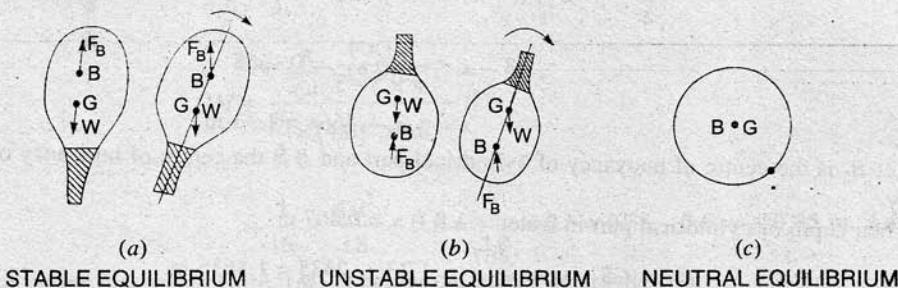

Fig. 4.12 *Stabilities of sub-merged bodies.*
4.7.1 Stability of a Sub-merged Body. The position of centre of gravity and centre of buoyancy in case of a completely sub-merged body are fixed. Consider a balloon, which is completely submerged in air. Let the lower portion of the balloon contains heavier material, so that its centre of gravity is lower than its centre of buoyancy as shown in Fig. 4.12 (a). Let the weight of the balloon is W . The weight W is acting through G , vertically in the downward direction, while the buoyant force F_B is acting vertically up, through B . For the equilibrium of the balloon $W = F_B$. If the balloon is given an angular displacement in the clockwise direction as shown in Fig. 4.12 (a), then W and F_B constitute a couple acting in the anti-clockwise direction and brings the balloon in the original position. Thus the balloon in the position, shown by Fig. 4.12 (a) is in stable equilibrium.
(b) **Unstable Equilibrium.** If $W = F_B$, but the centre of buoyancy (B) is below centre of gravity (G), the body is in unstable equilibrium as shown in Fig. 4.12 (b). A slight displacement to the body, in the clockwise direction, gives the couple due to W and F_B also in the clockwise direction. Thus the body does not return to its original position and hence the body is in unstable equilibrium.
(c) **Neutral Equilibrium.** If $F_B = W$ and B and G are at the same point, as shown in Fig. 4.12 (c), the body is said to be in Neutral Equilibrium.